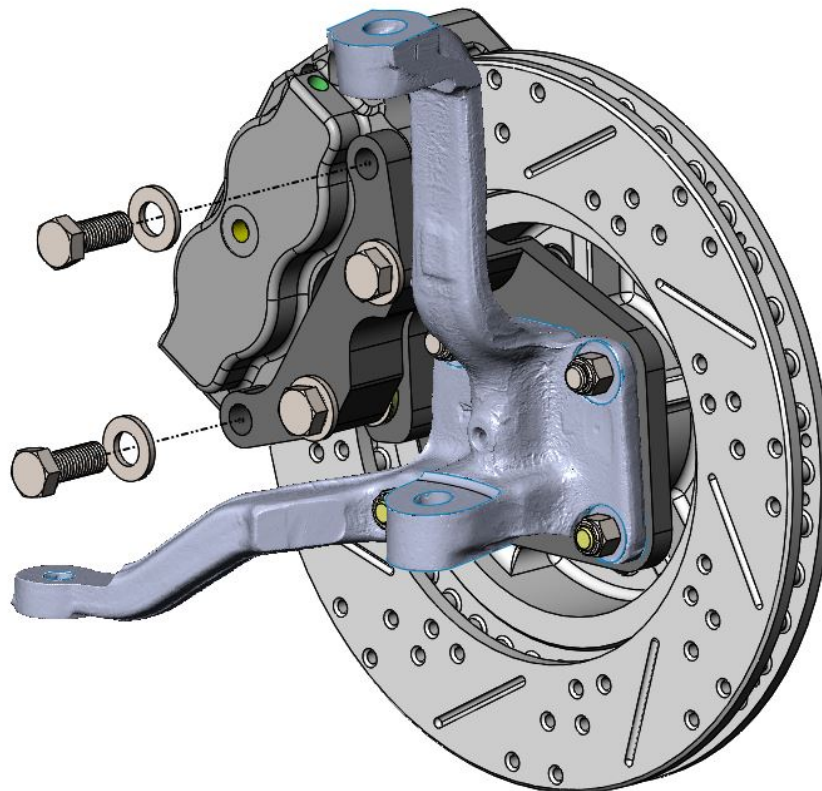

Figure 6 – Caliper Mounting Bolt Installation (Driver Side Shown)
8. With the pads removed from the caliper, position the caliper over the brake rotor and secure using the supplied M12 x 30mm Hex Head Bolts. Snug the bolts only at this time as they may need to be removed at a later step. Refer to Figure 6 below for reference.